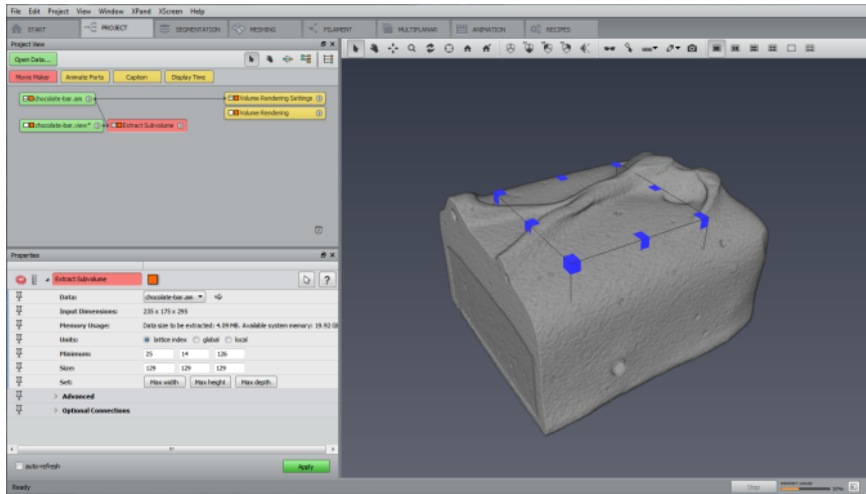
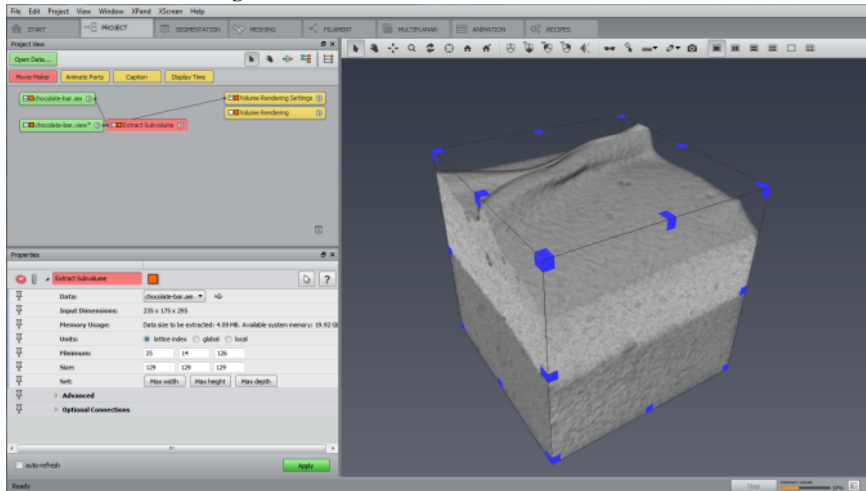

Figure 15.8: Extract Subvolume on *chocolate-bar.am*
Figure 15.9: Extracted Subvolume
- Attach an *Extract Subvolume* module to chocolate-bar.am data and extract a small portion of the image (see Figure 15.8 and Figure 15.9).